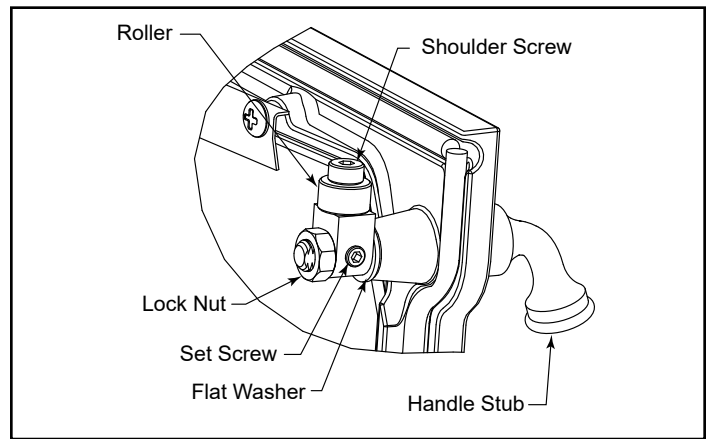

Figure 45 - Rotate pawl and/or remove flat washer to adjust latch.
1. Remove and retain the lock nut with a 9/16" wrench. (Figure 45)